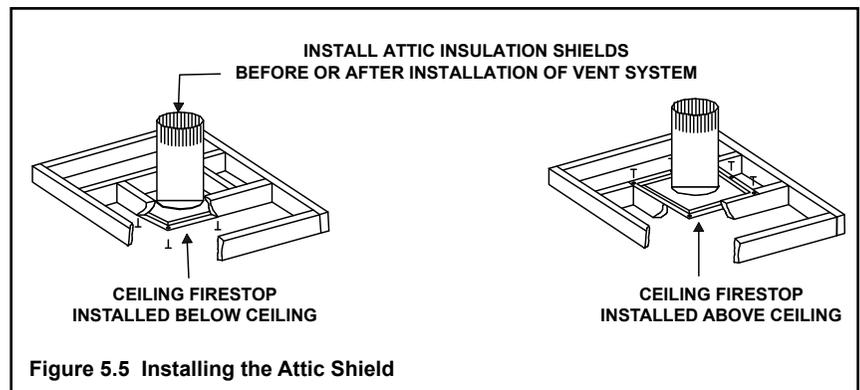

Figure 5.5 Installing the Attic Shield
- The ceiling firestop may be installed above or below the ceiling joists when installed with an attic insulation shield. It must be under joists between floors that are not insulated. Refer to Figure 5.5.